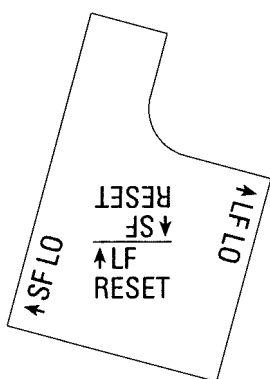

Figure 8-4. Orientation of the label on the bell alarm module for installation as a bell alarm with automatic reset.
- a. For installation as a bell alarm with automatic reset, the label on the back of the module should appear as in Figure 8-4, with the legend ↑LF RESET horizontal. Attach the module with the two screws and washers provided.